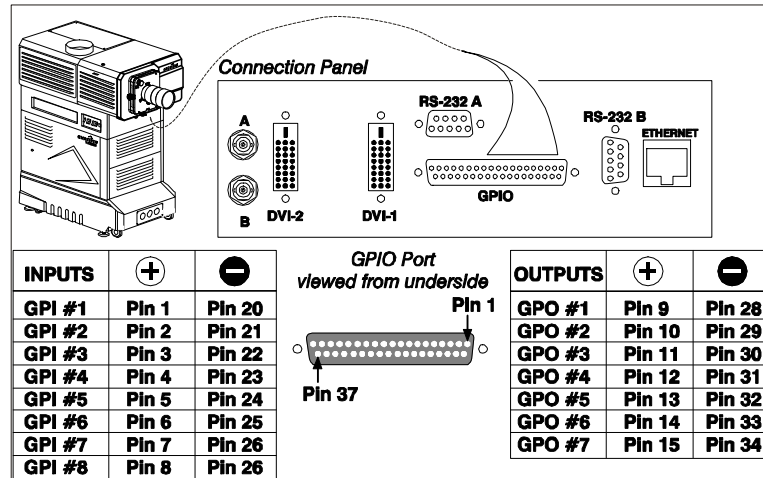
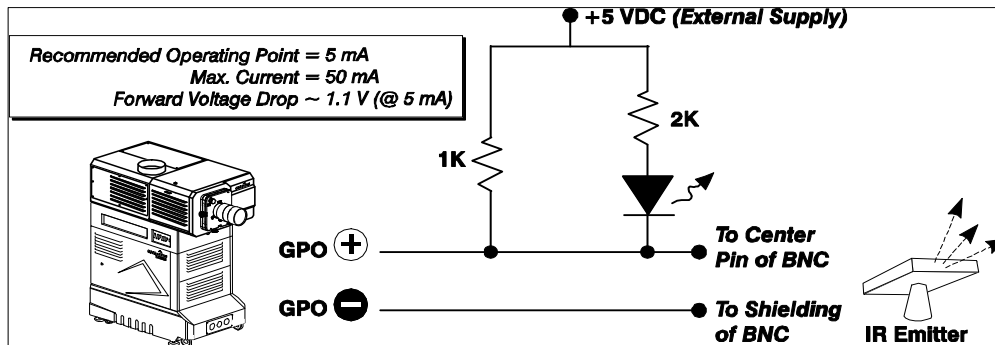

Figure D-1 GPIO Connector Pinouts
Figure D-2 Circuit for Power Supply
The 37-pin GPIO connector is located on the *Source and Communication Panel* located on the underside of the projection head near the front. It provides a flexible method of interfacing a wide range of external I/O devices to the projector, often so that an event on one device automatically triggers an event on the other. The pins on this connector that are configurable using the TPC’s **Custom 3D Control** menu are identified in **Figure D-1**.
**NOTES: 1)** Pins not shown in **Figure D-1** are reserved for other uses, and cannot be specified at the TPC. **2)** Cable access is through the pedestal “toe” at front.
If you are wiring your own GPIO cable for use with a server or 3D device such as an IR emitter or a polarizer, follow the circuit diagram in **Figure D-2**.
1. Assemble a cable according to guidelines shown in **Figure D-1** and **Figure D-2**.
3. In the TPC’s **Custom 3D Control** menu, set **Output GPO** according to the pins wired in the GPIO cable (see **Figure D-1**). For instance, if you have wired pins #10 (+) and #29 (-) to your 3D device, set **Output GPO** to GPO #2.